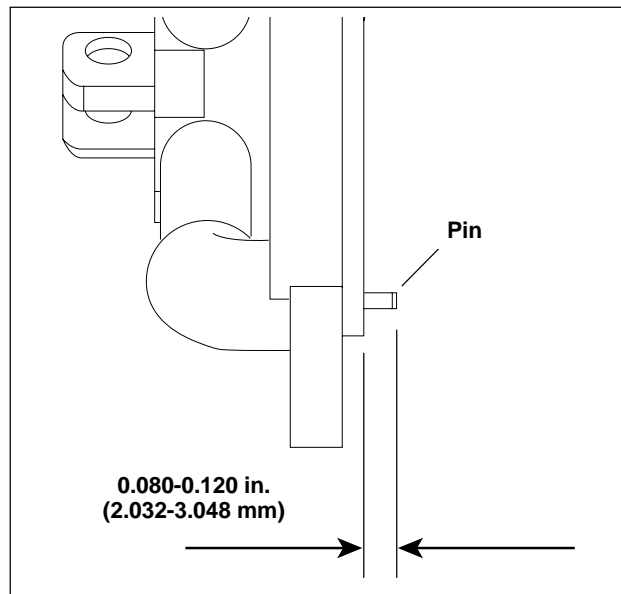

Figure 2-84. Measuring Roll Pin Protrusion
1. See Figure 2-84. Measure isolator roll pin protrusion on both left and right isolator mounts with calipers or metal rule. Roll pin should not protrude more than 0.120 in. (3 mm). If roll pin protrudes more than 0.120 in. (3 mm) file or grind until within specification; 0.080-0.120 in. (2.032-3.048 mm). Use care when filing to avoid creating sharp edges.